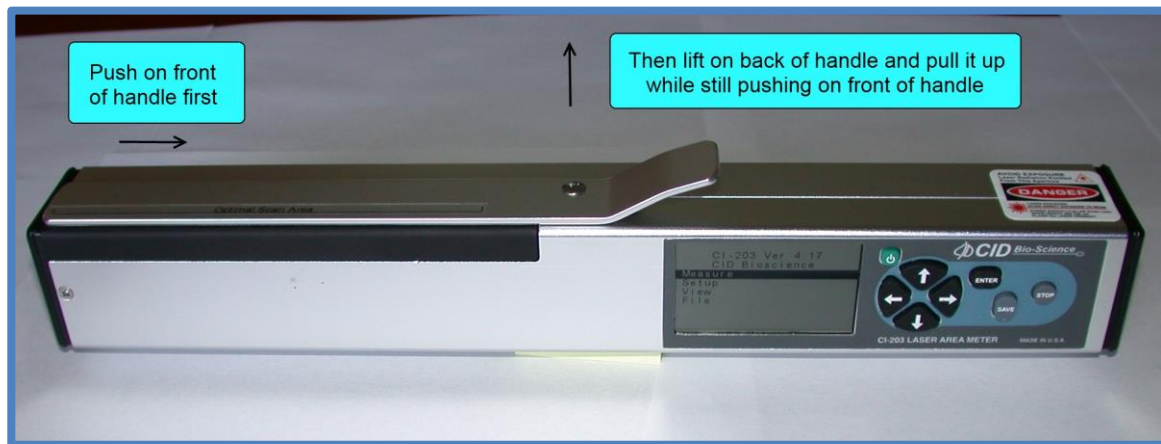

Figure 7. Illustration of how to remove the arm.
1. Remove the roller arm on the CI-203 Laser Leaf Area Meter by pushing the front section of the arm slightly back toward the display and lifting it out (see Figure 7). Orient the CI-203 so that the display will be lined up with the notch on the housing of the CI-203CA. Once this is done, insert the CI-203 all the way into the hole in the side of the CI-203CA. Confirm that the CI-203 is inserted into the CI-203CA all the way by verifying that the housing on the CI-203CA covers the left edge of the display. Once this is done, rotate the Lock lever on the CI-203CA counter-clockwise to secure the CI-203.